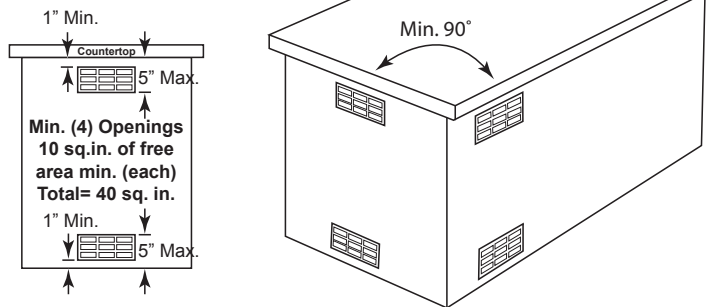

Figure 9
- Two openings must be in the side walls of the enclosure, at the top and spaced a minimum of 90° from each other. The openings must begin 1" or less below the countertop edge and end no more than 5" below the countertop edge. See Figure 9.
The clearance between the openings and any items outside of the enclosure is a minimum of 6". The clearance between the openings and any items within the enclosure is a minimum of 2". This provides free flowing air inside and outside the enclosure to keep the island cool during operation of the Side Burner. See Figure 9.